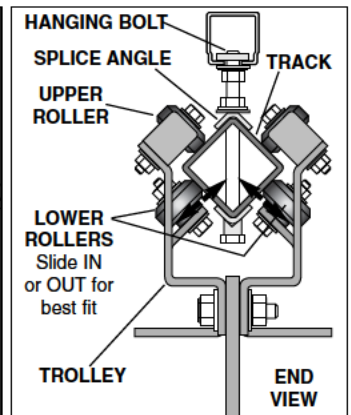

FIGURE 5
STEP 5- If necessary, adjust trolley(s) for proper fit. Loosen (do not remove) nuts securing bottom rollers. See Figure 5. Slide roller assembly in or out as needed. Tighten nuts. Test trolley.
STEP 4. Roll trolley onto curved rail. If trolley roller adjustment is needed, see Step 5 and Figure 5, over.